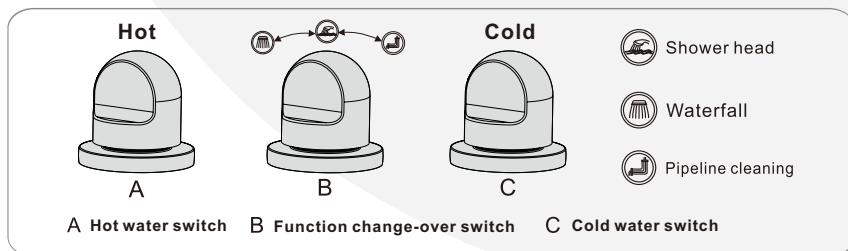

Figure 16
- C. The hand wheel is the cold water inlet/off switch. (As show in Fig.16)